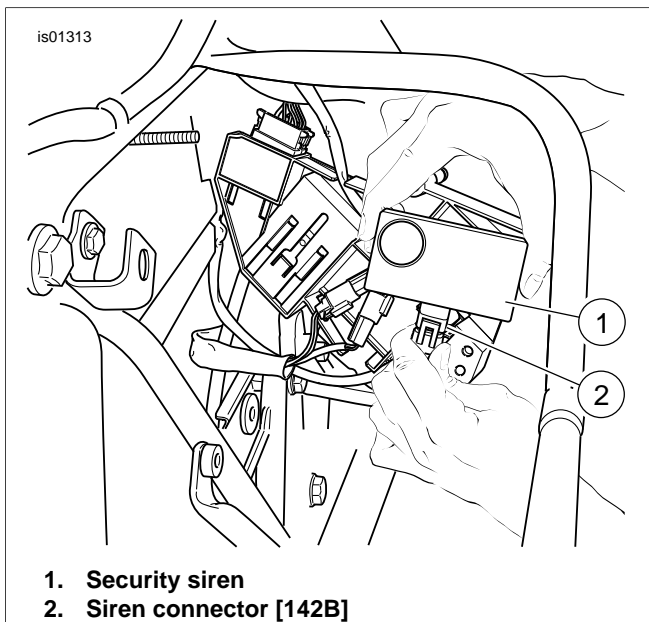

Figure 12. Insert Siren Connector (2002-2007 FL Touring)
4. See Figure 12. Insert the security siren connector [142B] (2) into the siren box receptacle until the connector latches securely.